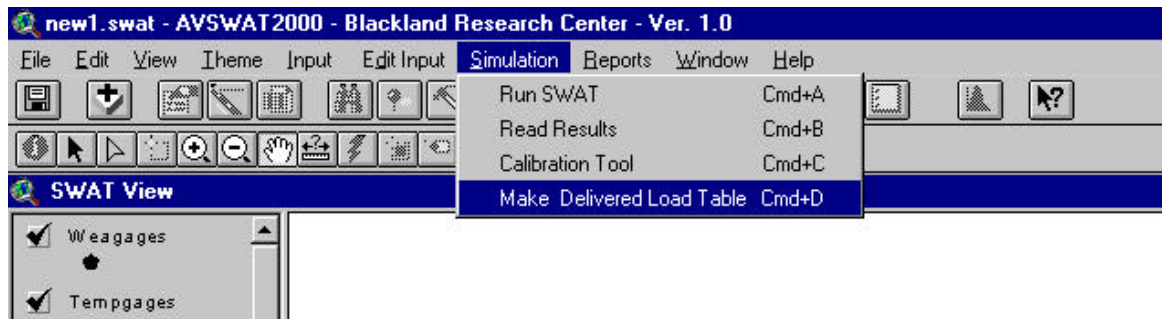

Figure 13.46
1. Select **Make Delivered Load Table** from the **Simulation** menu (or press **Cmd+D**) (Figure 13.46).